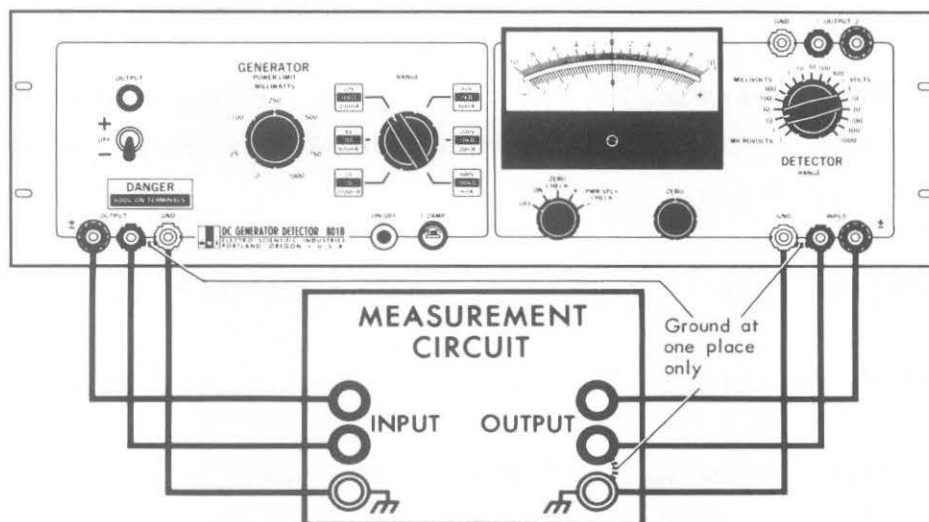

Figure 2-2. Basic Operating Procedure
2. Connect the measurement circuit to the generator OUTPUT and detector INPUT terminals as shown in Figure 2-2	The measurement circuit should be grounded at one point only, so that ground currents between generator and detector chassis cannot flow through these leads.